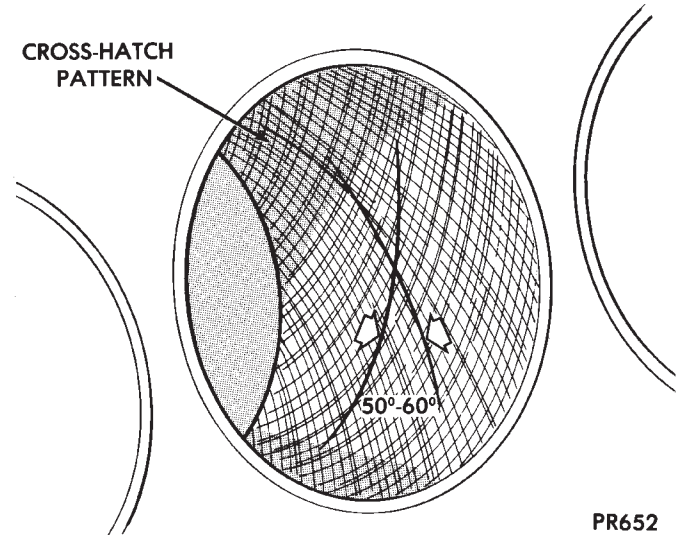

Fig. 3 Cylinder Bore Cross-Hatch Pattern
(3) Honing should be done by moving the hone up and down fast enough to get a cross-hatch pattern. When hone marks **intersect** at 50-60 degrees, the cross hatch angle is most satisfactory for proper seating of rings (Fig. 3).